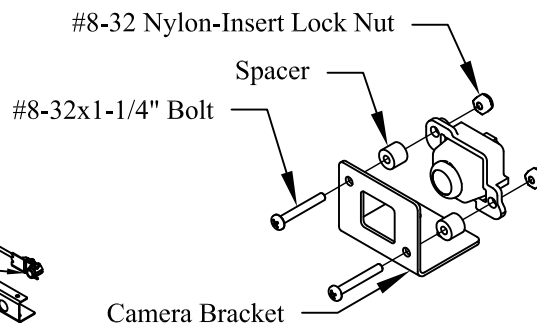

Figure 7: Installing Rear Camera in Bracket
9. **Place** camera into bracket and fix in position using the provided #8-32 bolts, spacers and nylon-insert lock nuts (Figure 7).